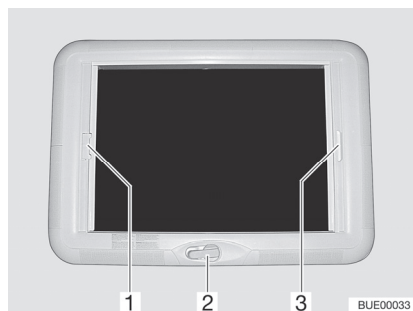

Fig. 21 Wind-up skylight
- Rotate the hand crank (Fig. 21,2) until a resistance can be felt.
- Pull the handle of the Roman shade (Fig. 21,3) in the direction of the arrow and release it in the desired position. The Roman shade will stay in that position.
- Use the handle to pull the insect screen (Fig. 21,1) in the direction of the arrow to the opposite handle of the Roman shade (Fig. 21,3) and allow it to engage.
- Press the handle of the insect screen (Fig. 21,1) at the back upwards and detach the insect screen from the Roman shade (Fig. 21,3).